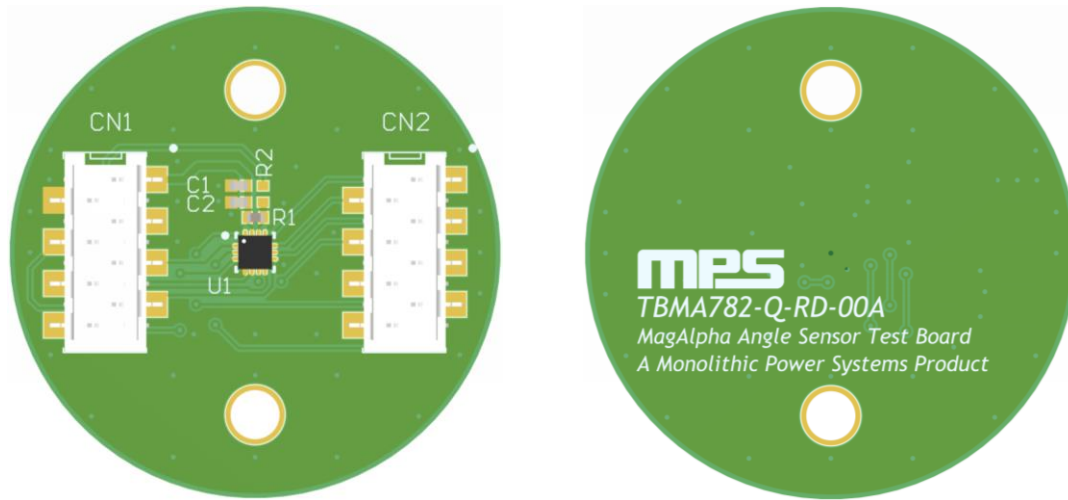

Figure 30: RD Type 4 Board Overview
Figure 30 shows an overview of the Type 4 round (RD) board.